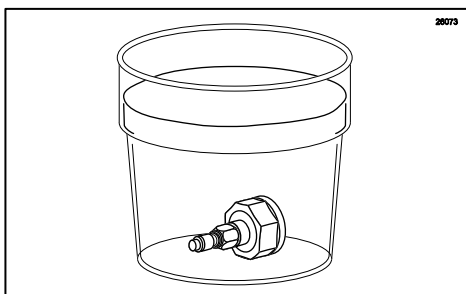

Figure 62
11. Place the Syrup Bag Adapter in sanitizer solution for at least 1 minute. (See Figure 62.)